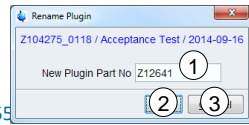
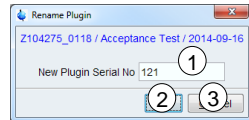

Figure 5-55: Rename Plugin dialog, New Plugin Part No
Figure 5-56: Navigation context menu – Rename Plugin dialog, New Plugin Serial No
In Inspection Lot context menu click **Rename Plugin** (4) to correct the part or serial number of the plugin connected with the selected Inspection Lot. Subsequent dialogs (Figure 5-55) open up.
Enter the **New Plugin Part No** (Figure 5-55 (1)) (see chapter 2.2, permitted characters). The old Part No is suggested as a default. Click **OK** (Figure 5-55 (2)) to continue to rename the plugin. The subsequent dialog shown in Figure 5-56 opens. Click **Cancel** (Figure 5-55 (3)) to abort renaming a plugin.
Enter the **New Plugin Serial No** (Figure 5-56 (1)) (see chapter 2.2, permitted characters). The old Serial No is suggested as a default. Click **OK** (Figure 5-56 (2)) to confirm and finish renaming the plugin. Click **Cancel** (Figure 5-56 (3)) to abort renaming the plugin.